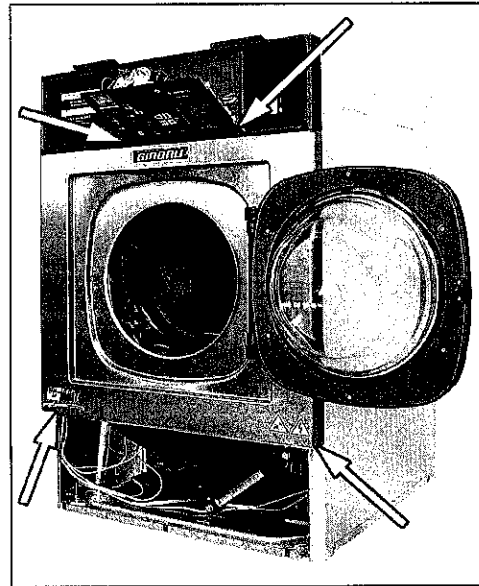

fig.34
- Match up the front and side panels and fix with the top and bottom screws as indicated by the arrows. (fig. 34).